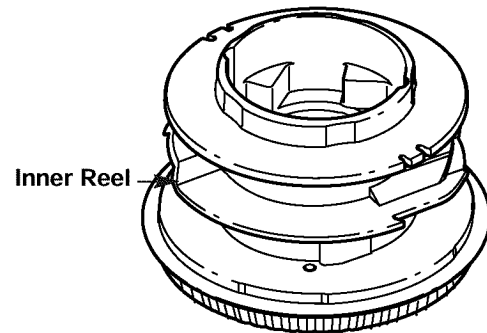

Fig. 25
4. Remove any existing line from the inner reel before cleaning. Remove any debris or grass from the knob, spring, inner reel and foam seal. Wash the inner reel with warm soapy water (Fig. 25).